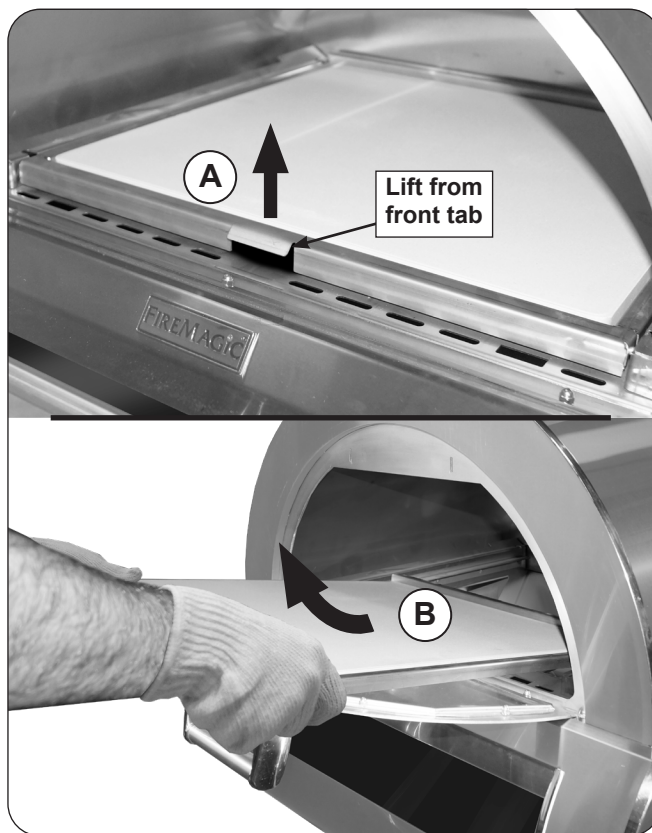

Fig. 46-2 Stone/frame removal
2. Grasp the center front tab of the pizza stone support frame and carefully lift upward to free the notches from the left and right side rail pegs (see Fig. 46-2, A).
4. Reposition your hands from the front tab to the sides of the frame. Lift the frame upward and out of the oven. See Fig. 46-2, B.